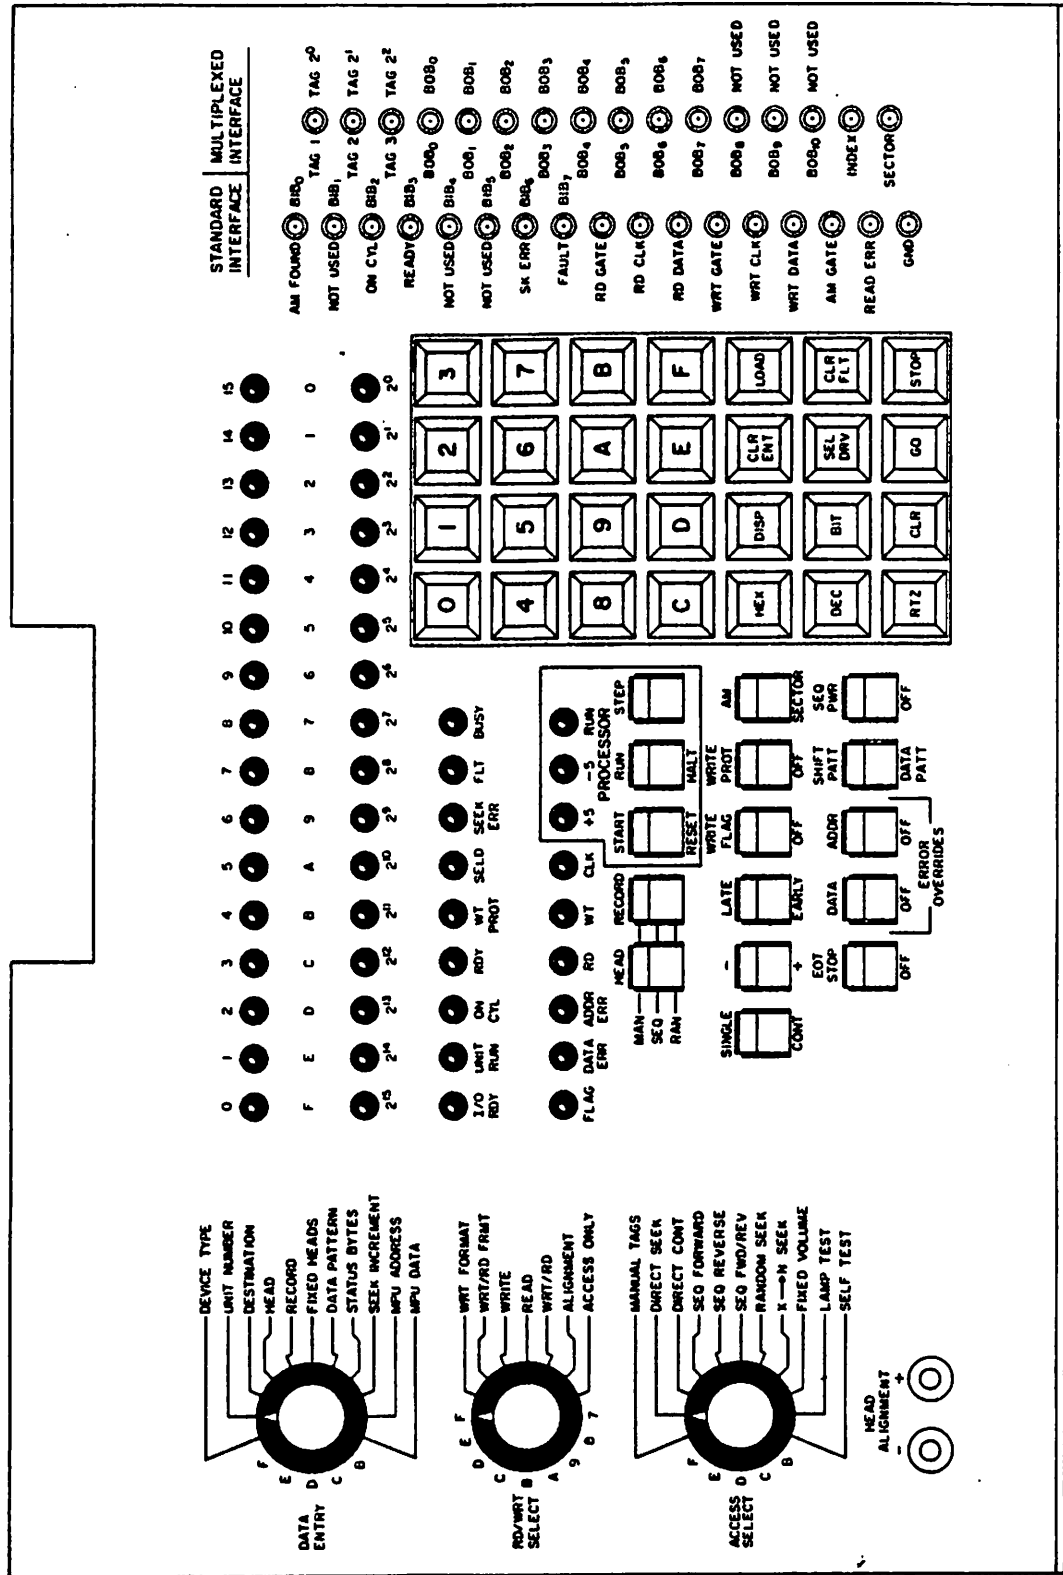

FIGURE 7-4. TB216 CONTROL PANEL
4. Attach A cables to drive I/O connector with 60-pin adapter cable. Attach B cable directly to drive I/O connector. No adapter is needed for B cable. (Refer to Figure 7-4.)